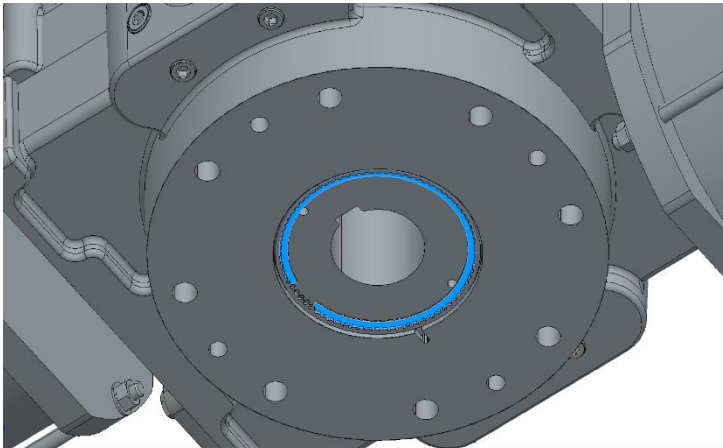

Figure 12 - Retaining Ring
- Carefully pull the spline driver out of the drive hub. **Figure 12 - Driver Removal**